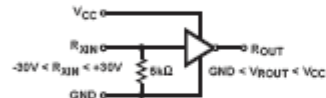

FIGURE 8. RECEIVER
**Electrical Specifications** Test Conditions: VCC = +5V ±10%, TA = Operating Temperature Range. Test Circuit as in Figure 8 Unless Otherwise Specified